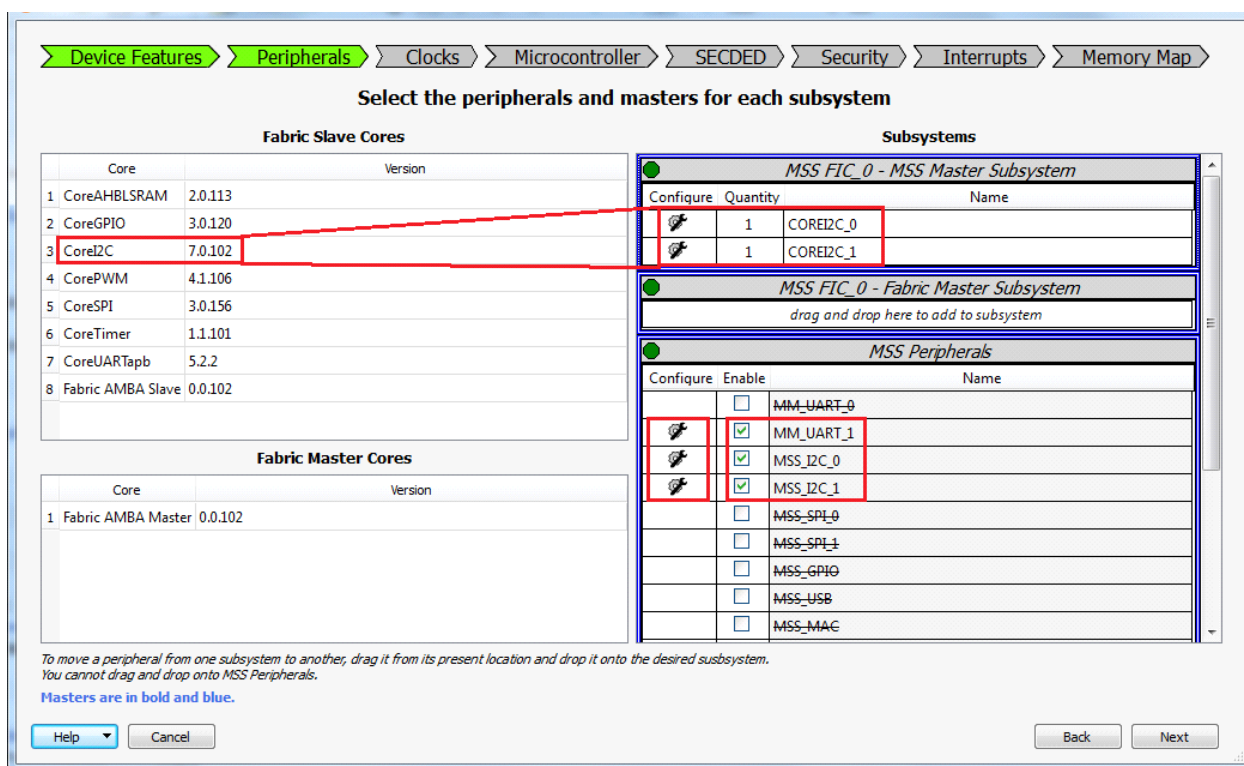

Figure 8 • System Builder - Peripherals Page
1. The **System Builder** window is displayed with **Device Features** page by default. Click **Next**, the **System Builder - Peripherals** page is displayed. Drag two instances of CoreI2C and drop on to the **MSS FIC_0 - MSS Master Subsystem**. Figure 8 shows the **Peripherals** page.
3. The design uses MMUART and I²C MSS peripherals. Select **MM_UART_1**, **MSS_I2C_0**, **MSS_I2C_1** and uncheck all other peripherals (see Figure 8).